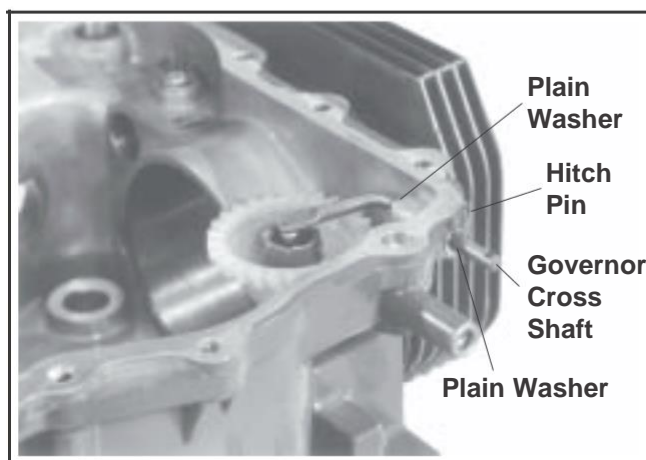

Figure 11-3. Installing Cross Shaft.
4. Install one plain washer to the cross shaft and insert the cross shaft (from inside crankcase) through the crankcase and oil seal. See Figure 11-3.